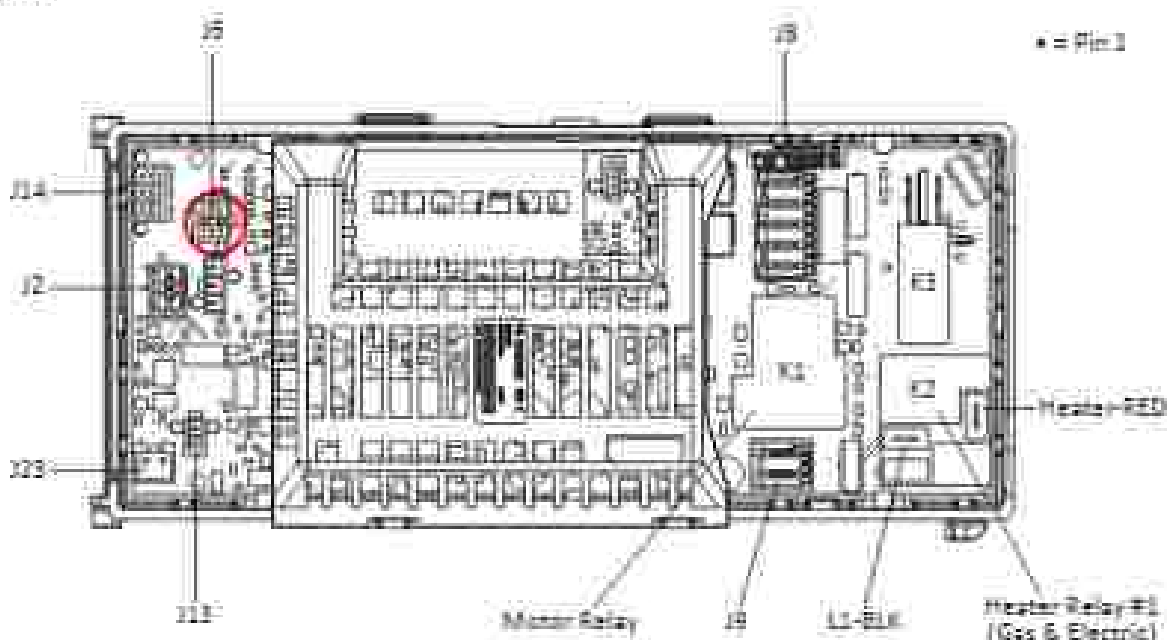

Figure 1 - Drum LED Connector
3. Verify that the drum LED connector J6 is securely connected to the ACU (see Figure 1).